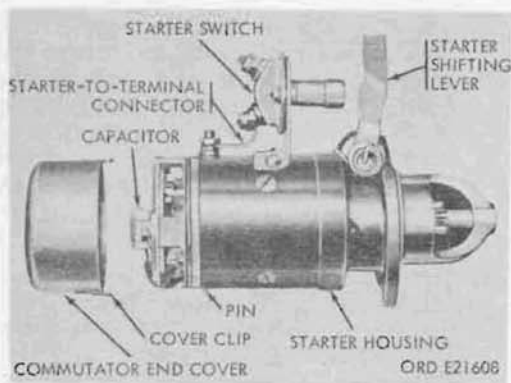
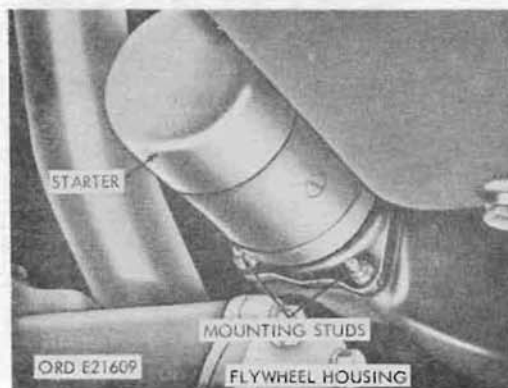
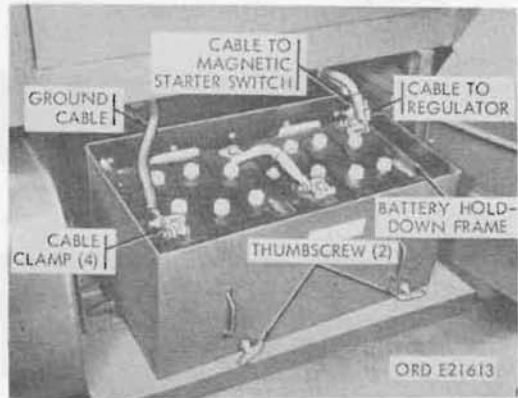

Figure 146. Starter with commutator end cover removed
Figure 147. Starter removal
Figure 153. Batteries and battery cables
a. Description. The starting system consists of a 24-volt waterproof starter (fig. 146), starter switch, and starter pedal. Pressure on the starter shifter lever first causes the starter drive to engage the engine flywheel, and then closes the starter switch to energize the starter. On the multifuel, the starter switch energizes a heavy-duty magnetic starter switch, which energizes the starter. The starter drive pinion automatically disengages when the engine starts. The starter is a four-pole, four-brush unit with three field coils connected in series and one in shunt, and is mounted on the flywheel housing on the right side of the engine. The switch is mounted on the starter frame. The pedal, secured to the cab floor, contacts the starter shifter lever.
a. Inspection and Cleaning (Fig. 146). Remove the commutator end cover by releasing the two cover clips from the pins in the starter housing and sliding the cover off. Inspect the commutator for dirty condition, roughness, high spots, and high mica. If the commutator is dirty, clean with grade 2/0 flint paper only
Caution: Be sure the battery ground cable (fig. 153) is disconnected before disconnecting the starter cable.
Disconnect the battery ground cable at the batteries (fig. 153). Disconnect the battery-to-starter cable at the starter switch. Remove three safety nuts holding the starter (fig. 147) to the flywheel housing. Pull the starter straight out from the housing to remove. Discard the gasket.
d. Installation. Place the starter in position on the mounting studs (fig. 147), using a new gasket. Be sure the starter switch is pointing up. Secure with three safety nuts. Connect the starter cable to the starter switch terminal. Connect the battery ground cable at the batteries (fig. 153).
a. Removal. Remove the ground cable from the batteries (fig. 153). Disconnect the battery-to-starter cable at the starter switch. Remove the starter-to-terminal connector (fig. 146) from the starter switch. Remove the two screws, washers, and nuts holding the switch to the mounting bracket, and remove the switch.
b. Installation. Position the switch on the mounting bracket and secure with two hex-head screws, lockwashers, and nuts. Attach the starter-to-terminal connector (fig. 146) to the starter switch, and tighten the nut.
Wrap the connector and terminals with 1/2-inch-wide cotton tape, and paint with synthetic insulating paint (Glyptal). Connect the battery-to-starter cable to the switch terminal. Connect the battery ground cable to the batteries (fig. 153).
(1) Batteries and cables (fig. 153). Two 12-volt, lead-acid-type batteries, connected in series, supply 24 volts for the truck electrical system. The batteries are located in a compartment on the right side of the truck, between the running board and the cab door. These batteries are a submersible type with special vent plugs which prevent entrance of water into the cells when the battery is submerged or being externally flushed with water during cleaning. Terminals are waterproofed by packing with heavy asbestos grease at the time of preparation for fording operations (TM 9-2320-209-10). Waterproof cables and harness assemblies are used for all battery connections.
e. Removal. Open the battery compartment door. Loosen the two thumbscrews and push the clamps down to clear the battery box. Pull the battery box out on the running board (fig. 153).
Caution: Disconnect the battery ground cable first. Disconnect all cables from the batteries. Loosen the battery retaining clamp bolts and remove the battery holddown frame (fig. 153). Lift the batteries from the box.
f. Installation. Position the batteries in the box, paying particular attention to placement of batteries (fig. 153). Place holddown frame over the batteries and secure with retaining clamp bolts.
positive cables to positive terminal of front battery. Connect ground cable to the negative terminal of the rear battery. Push the battery box into the box compartment. Lift the clamps to engage the thumbscrews, and tighten the thumbscrews (fig. 153) securely. Close the compartment door.
b. Removal. Disconnect cables at batteries (fig. 153). Remove four screws and nuts secur-
c. Installation. Install the receptacle and its cables. Secure with four hex-head screws and safety nuts, and tighten firmly. Connect the cables at the batteries (fig. 153), observing correct polarity. Cable No. 50 connects to the negative (-) terminal and No. 49 to the positive (+) terminal of the batteries.